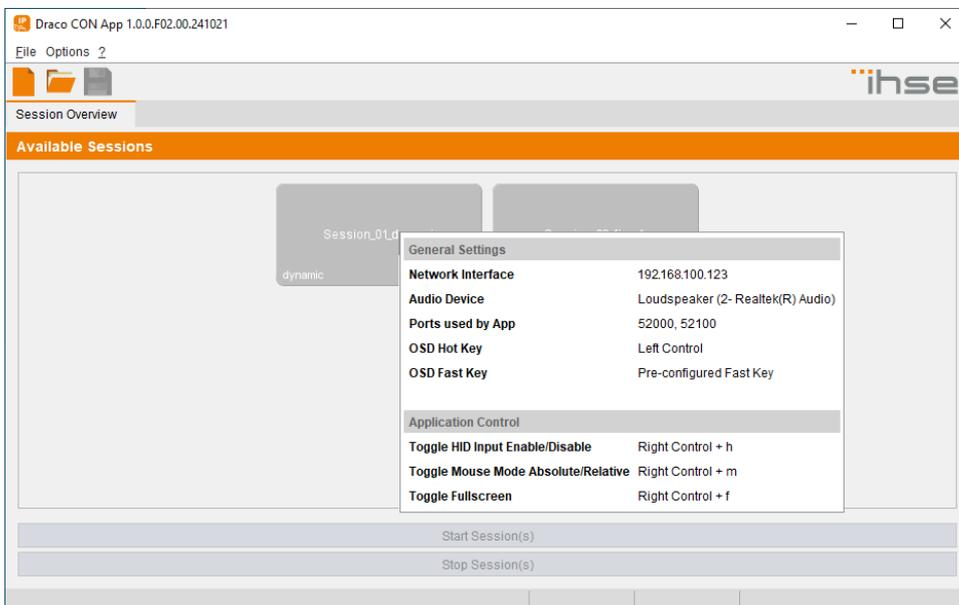

Fig. 63 Draco CON App - Information box of a session
1. Enter the **Hot Key** (2xLeft Control according to the General Settings displayed in Fig. 63) to start the command mode.